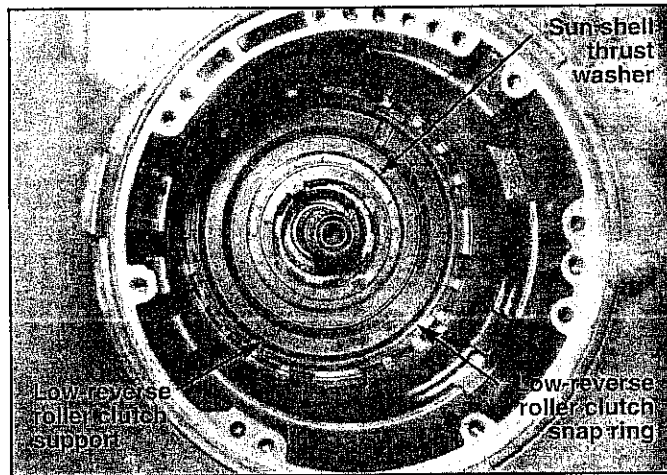

FIGURE 13
STEP 20. Remove the four-tab sun shell thrust washer from the front of the low and reverse roller clutch race if it did not come out with the drive shell. (See Fig. 13) Put it in the oil pan. Remove the low and reverse roller clutch support snap ring from the case. (See Fig. 13) Set it in the oil pan.